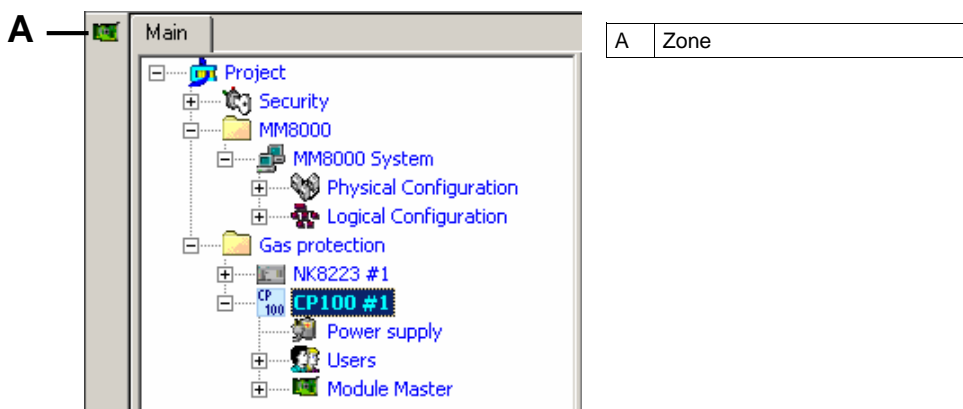

Fig. 13 Adding an optional module
5. If more modules are to be configured, select the main CP100 node, add one or two additional modules (Fig. 13), and then repeat steps 2 to 4.